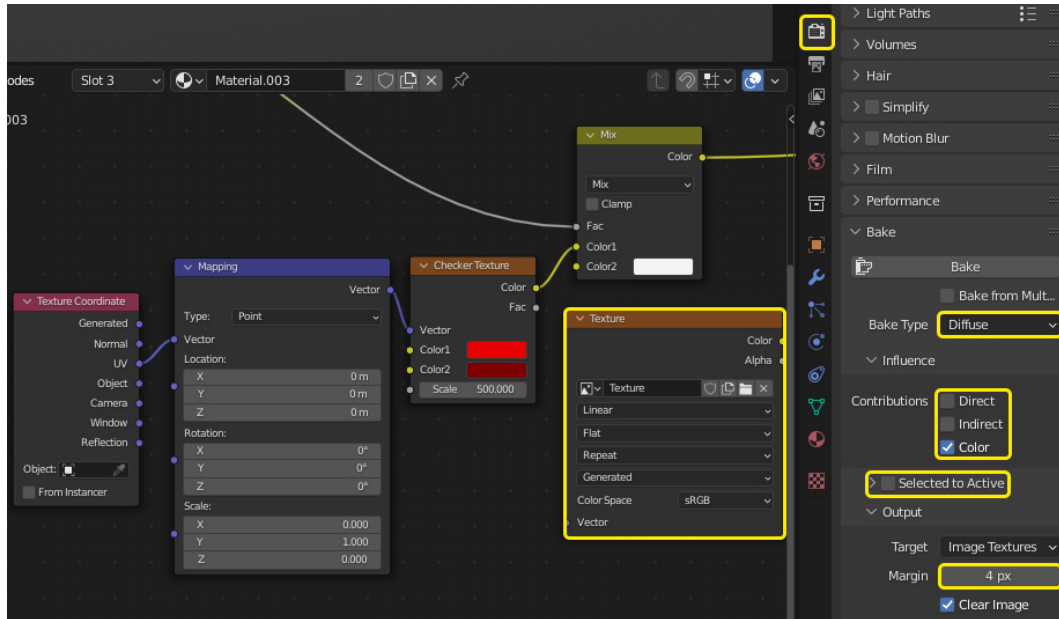

Figure 6.43 – Baking a texture
7. Create a new image and change the bake settings, as shown in *Figure 6.43*. This will allow us to save our material as an image and paint over it freely: